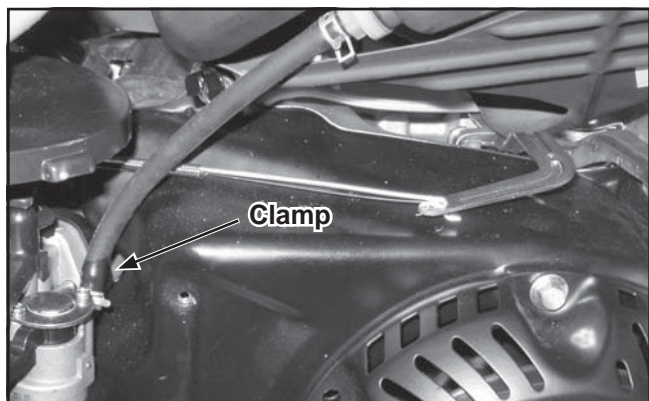

Figure 9-11. Disconnecting Fuel Line.
2. Loosen the clamp and disconnect the fuel line from the inlet of the shut-off valve. See Figure 9-11.